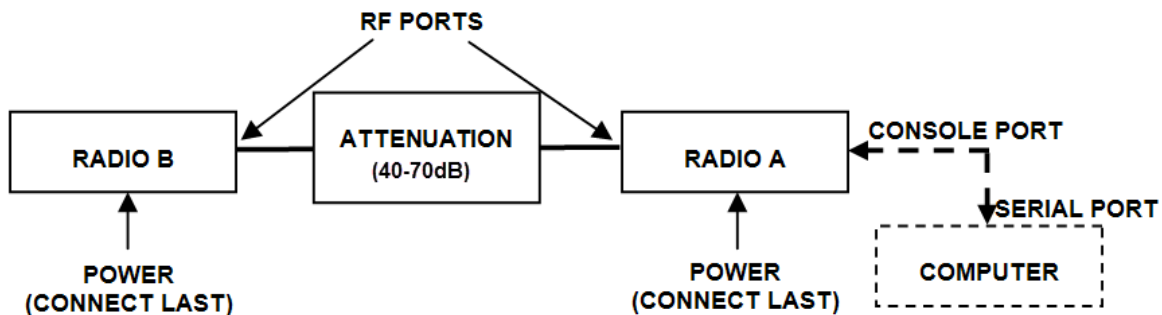

Figure 42 Basic back-to-back bench test configuration
- 1 Connect attenuation and (known-good) RF cable(s) between radio pair, shown in Figure 42.
Connect the system as shown in Figure 42, using the combination of fixed and variable attenuation between the radio's RF ports. Connect the volt meter to either radio's RSL test point and associated reference ground connection.